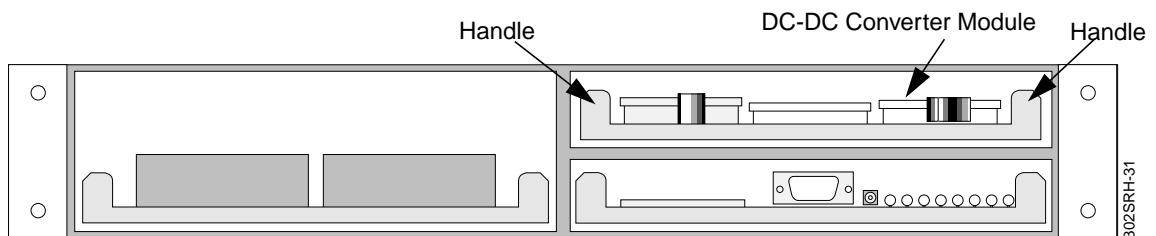

Figure 6-8: Front View of DC-DC Converter Location in the OCM (Cover Removed)
4. Using the handles located on each side of the DC-DC converter module, gently pull the DC-DC converter module out of the chassis (see Figure 6-8).
3. Slide the DC-DC converter module into the chassis rails, using the handles on the DC-DC converter module as guides, being careful not to damage any of the components (see Figure 6-8).